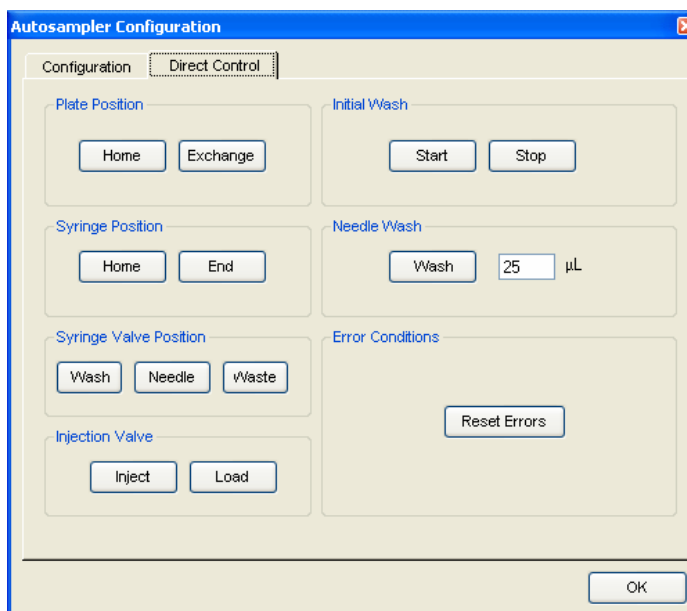

Figure 5-5. Autosampler Configuration Window
- step 4* Flush the switching valve (or an injection valve connected directly to the Eksigent nano LC instrument) by alternately clicking on the **Load Position** and **Inject Position** buttons in the **Valve Manual Control** area. To switch the valve in the nano LC Autosampler, use the Autosampler direct control in the run manager under **Devices > Autosampler Device Settings > Direct Control Tab** (Figure 5-5).